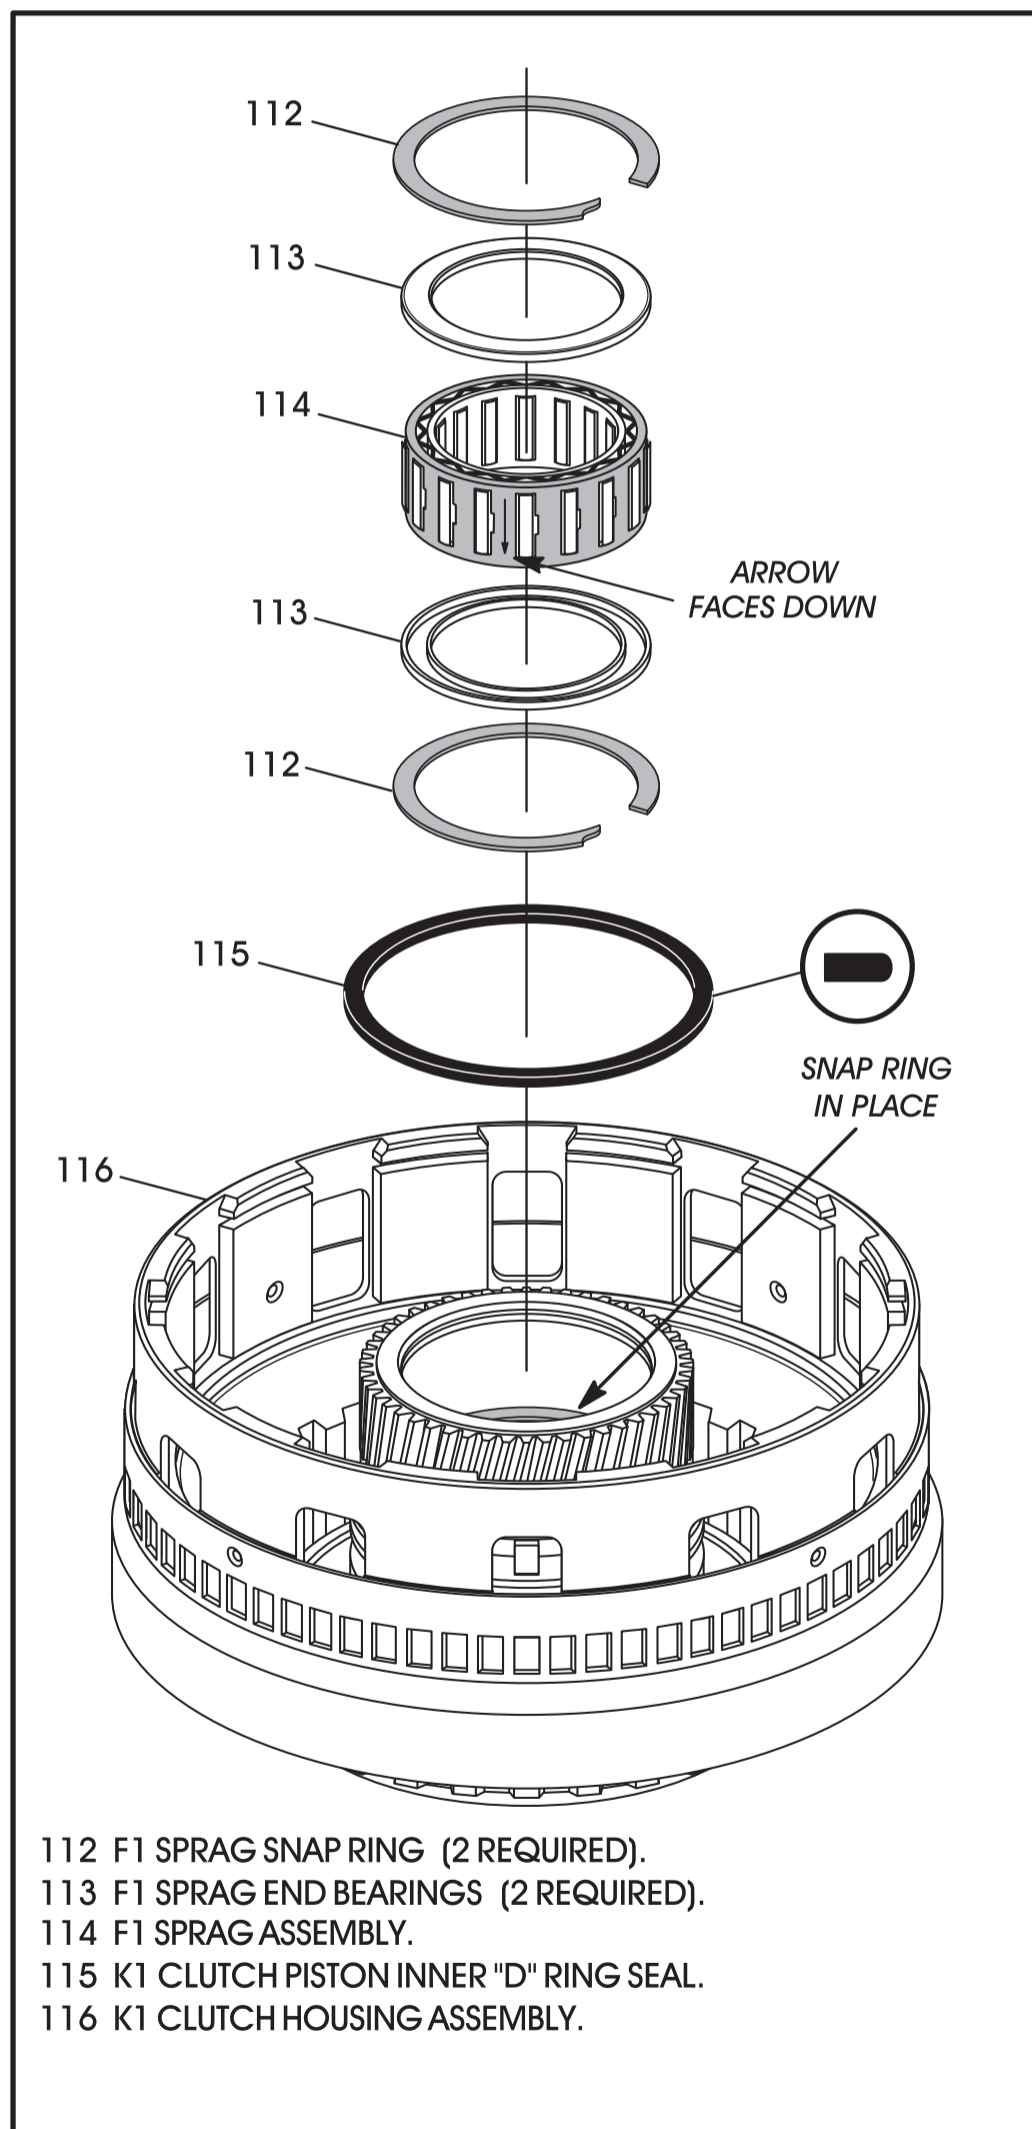

Figure 89
7. Install new "D" ring seal into the K-1 clutch housing, as shown in Figure 89, and lube with a small amount of Trans-Jel®.
8. Ensure that the bottom snap ring for F-1 sprag is in place, as shown in Figure 89.
9. Install the first end bearing on top of the snap ring with the lips facing up, as shown in Figure 89.
10. Install the F-1 sprag assembly with the arrow facing down, as shown in Figure 89.
11. Install the second end bearing with the lips facing down, as shown in Figure 89.
12. Install the second snap ring on top of the end bearing, as shown in Figure 89, and ensure that it is fully seated.